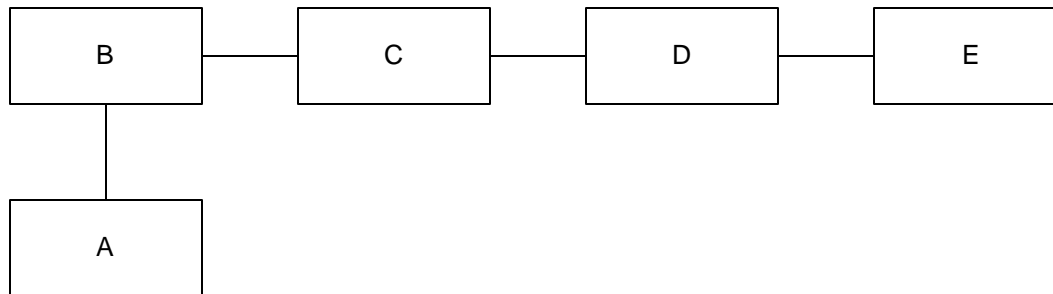

Figure 27: Spurious Emissions at Antenna Terminals (0 – 2000 MHz) Test Setup
1. Connect the equipment as shown in Figure 27 above.